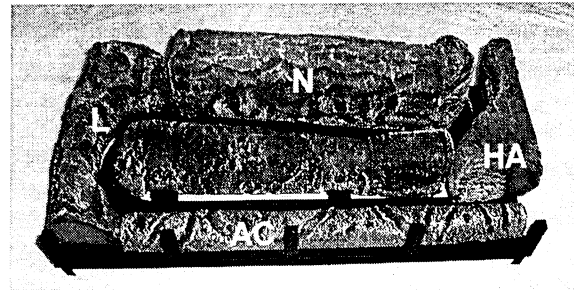

FIGURE 11E
2. Place the 'N', 'L', 'HA', and 'AC' logs into position on the burner cover aligning the holes in the bottom of the logs to the corresponding pins in the burner cover. Fig. 11E